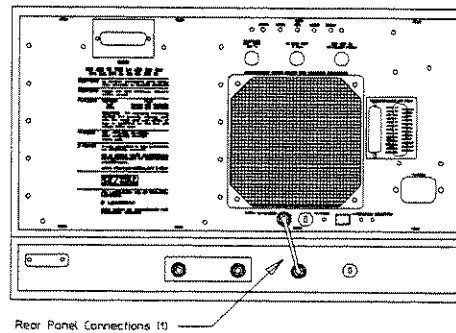

Figure 5-2 Rear panel Interconnect cable Installation
2. Install the test set interconnect cable between the rear panels of both instruments as shown in figure 5-2. This cable